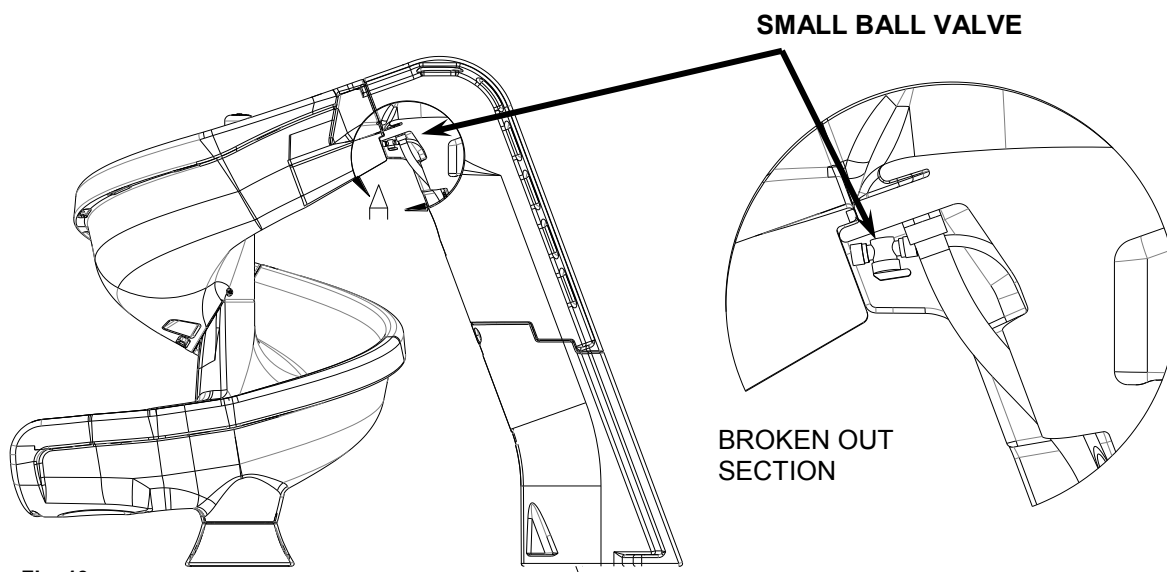

Fig. 13
17) Use plumbers tape (Teflon tape) when permanently assembling the  $\frac{3}{8}$ " to  $\frac{1}{2}$ " barbed 90° elbow fitting (22) to the 1" PVC Slip Reducer to  $\frac{1}{2}$ " Threaded Female (21).
18) Glue the top end of the 1" PVC Flex Hose 16" long (23) into the fitting in the ladder.
19) Route the  $\frac{1}{2}$ " Polypropylene Tubing (27) behind the 1" PVC Flex Hose 16" long (23) as shown in Figure 12 Detail C. Connect the  $\frac{1}{2}$ " Polypropylene Tubing (27) to the small ball valve attached to the top runway section by pushing the  $\frac{1}{2}$ " Polypropylene Tubing (27) into the end of the ball valve firmly as far as it will go. See Figure 13.
4. The helix™ can handle up to 20 gallons per minute (75 L/min). Water flow to the main water supply is to be regulated using the ball valve (16) near the center of the ladder. The fountain feature can be regulated via the small ball valve just under the top of the ladder. Figure 13 shows the location of the small ball valve.